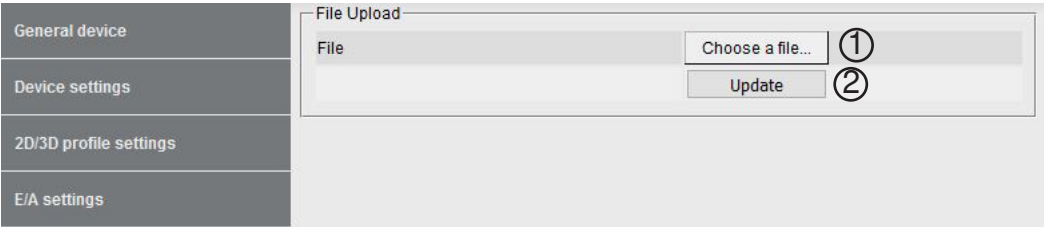

Fig. 68: Start window update process
Click „Choose a file“ (1) and select the file „Firmware_weCat3D_ xxx.run“. The file can be downloaded at www.wenglor.com from the product's download area. Then acknowledge by clicking „Update“ (2) and wait until updating has been completed (see Fig. 68 ... Fig. 70).